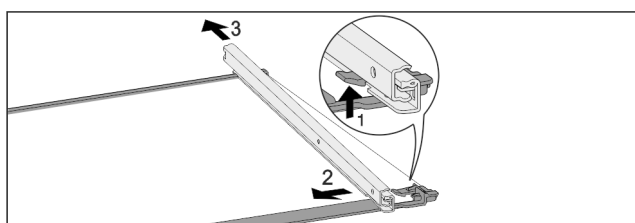

Fig. 40 Glass shelf with rails
- ▶ Push up front click-in hooks. *Fig. 40 (1)*
- ▶ Move the pull-out rails to the side *Fig. 40 (2)* and to the rear *Fig. 40 (3)*.